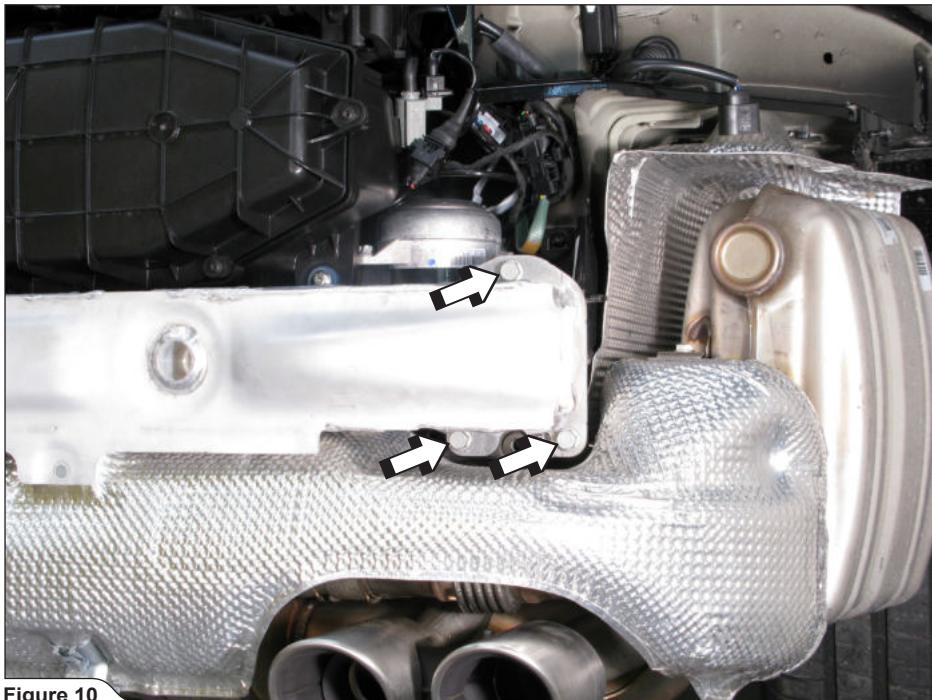

Figure 10
6. Unscrew the marked bolts on both sides of the vehicle and carefully remove the central muffler's heat shield (Figure 10).